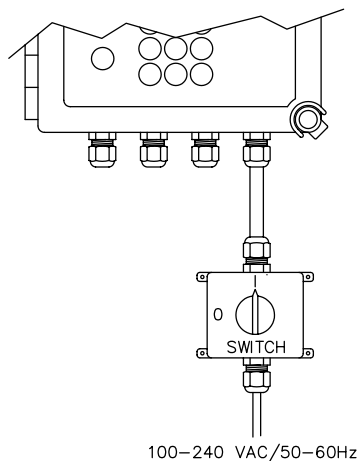

Figure 3.6 The recommended external power switch, spare part nr PR-10900. The ratings of the switch are 10A/230V.
Important: The DTR does not have a built-in power switch. The system is always powered on when connected to a power source. Mounting an external power switch to control the DTR's power supply is recommended, Figure 3.6.
31 32 33	Power, L (31), N (32), protective earth (33), 100–240 V AC, 50–60 Hz. An external power switch (Figure 3.6) is recommended.